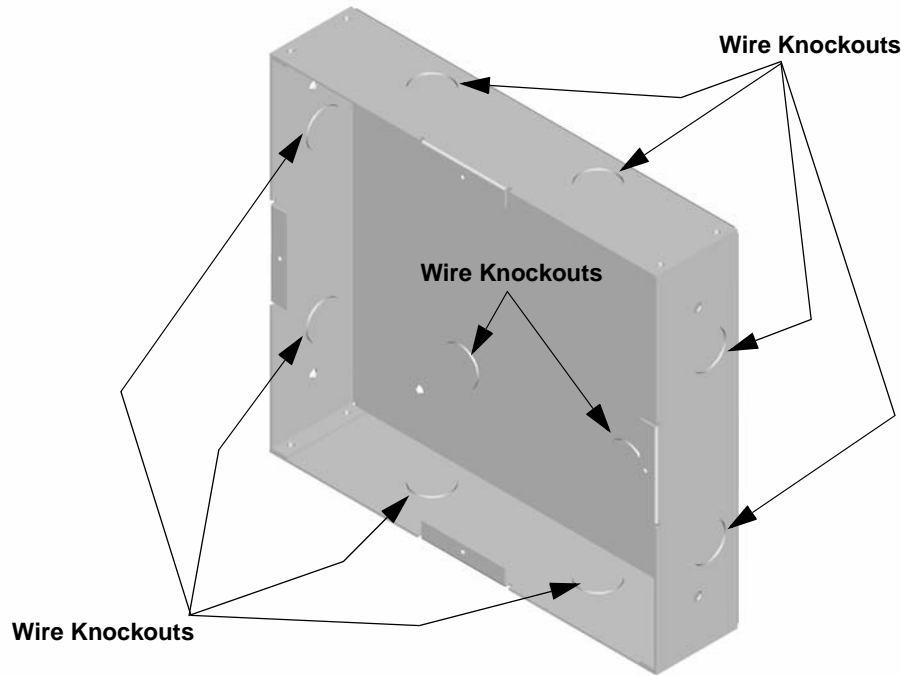

Figure 4-13 Backbox Knockout Locations
2. Remove knockout holes as needed for wires. See Figure 4-13 for backbox knockout locations.
- Remove the desired knock out. See Figure 4-13.